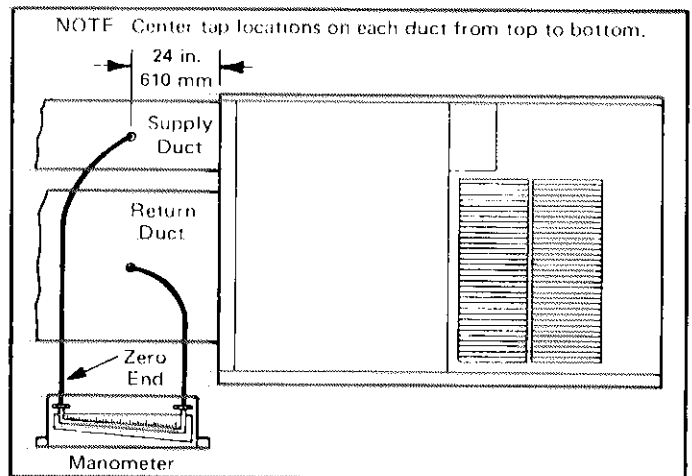

FIGURE 9
- 1 - Measure tap locations on supply and return ducts at least 24 inches from unit and centered top to bottom. See Figure 9.
- 2 - Punch approximately 1/4 inch diameter holes in ducts. Insert manometer hoses flush with inside edge of duct or insulation. Seal around hoses with permagum or sealing compound. Connect zero end of manometer to supply side of system. Refer to Figure 9.